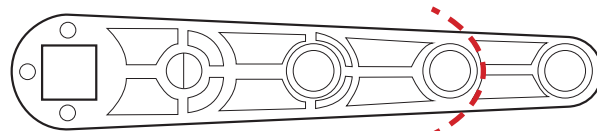

fig. 8
- Optional: Trim the height sensor arm to the second hole (Fig. 8).